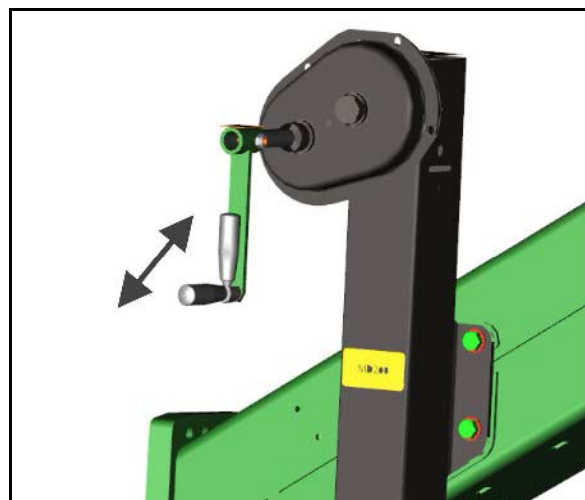

Fig. 57
The creation of tramlines is shown in Figure (Fig. 57) using various examples:
1. Look for the following in the adjacent table (Fig. 57):
Figure (Fig. 57) shows examples for creating tramlines with tramline rhythms 4, 6 and 8.
Figure (Fig. 57) shows examples of tramline creation with tramline rhythms 2 and 6plus.